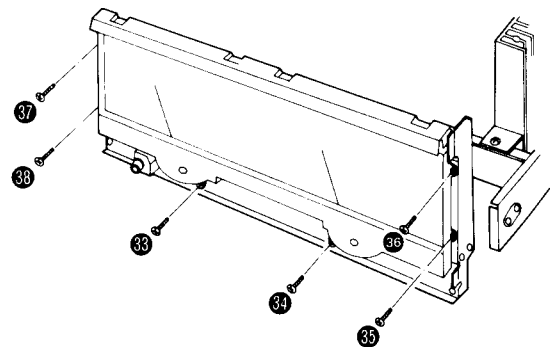

Fig. 6
5. Remove the 6 meter setscrews. ( ㉗ ~ ㉚ in fig. 6)